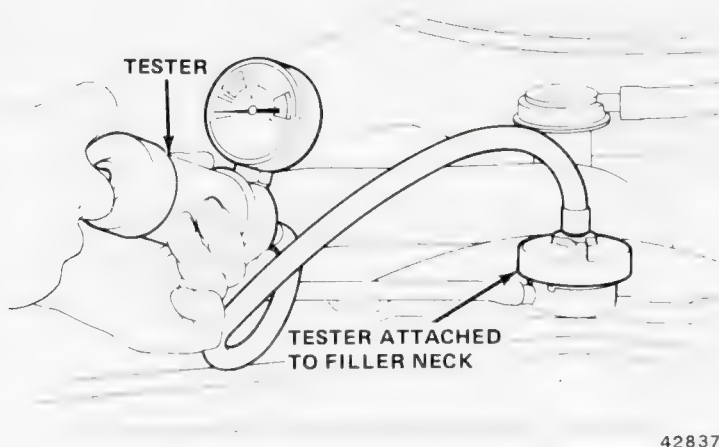

Fig. 1C-8 Cooling System Pressure Test
(1) Carefully remove radiator pressure cap from filler neck and check coolant level.
(2) Wipe inside of filler neck and examine lower inside sealing seat for nicks, cracks, paint, dirt and solder bumps.
(3) Inspect overflow tube for internal obstructions. Run a wire through tube to be sure it is clear.
(4) Inspect cams on outside of filler neck. If cams are bent, seating of pressure cap valve and tester seal will be affected. Bent cams can be reformed if done carefully.
(5) Attach pressure tester to filler neck (fig. 1C-8). **Do not force.**
(6) Operate tester pump to apply 15 psi pressure to system. If hoses swell excessively while testing, replace as necessary.
(7) Observe needle: